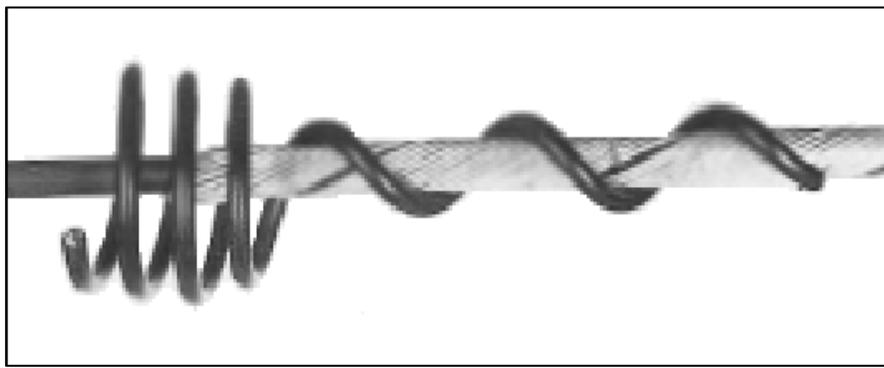

Figure 5 – Corona Coils – recommended for use with OFS PowerGuide® TR (tracking resistant) cable where e-field space potentials exceed 12kv.
4.8 Corona coils (Figure 5) are intended to reduce electrical stress at the ends of the metal reinforcing rods of dead end assemblies. The corona coils are designed to be used with a specific size dead end. Corona coils are recommended for use with OFS PowerGuide® TR (tracking resistant) cable in applications where the e-field space potential at the attachment location exceeds 12 kv. Refer to OFS AN-811 *Recommendations for Electrical Stress Mechanisms* and AN-203 *Space Potential Calculation* for further information.